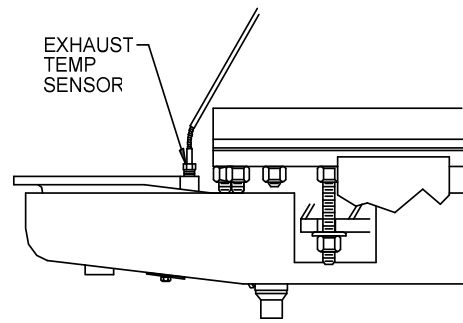

Figure 7.4
15. Disconnect the exhaust temperature sensor by unscrewing it from the exhaust manifold (Figure 7.4).